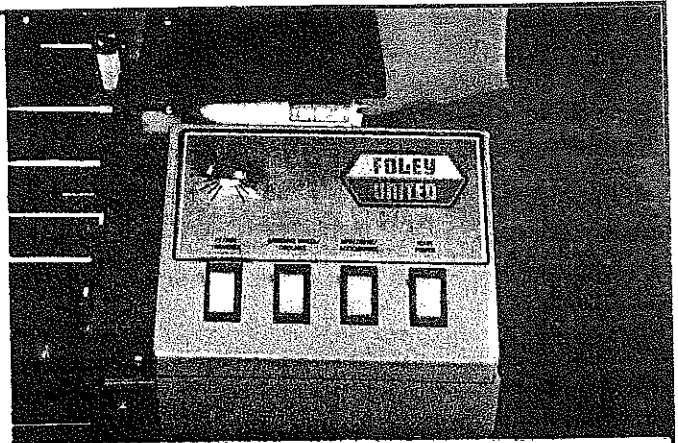

FIG. 85
- I. Turn on grinding wheel motor on main control panel. There is a secondary switch on the motor itself that must be in the "On" position. Now slowly in-feed the grinding wheel until it just makes contact with the reel. (See FIG. 85)